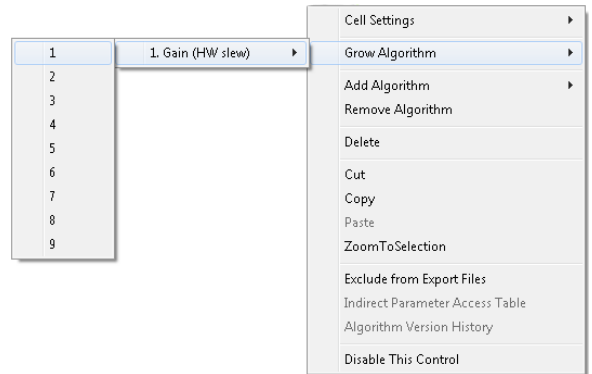

Figure 27. Growing the Volume Control to Two Channels
- By default, the volume control block has one input and one output; in other words, it is a single channel. To add another channel, right click in the empty white space of the **Single Volume** block, and, from the dropdown menu that appears, select **Grow Algorithm > 1. Gain (HW Slew) > 1** (see Figure 27).